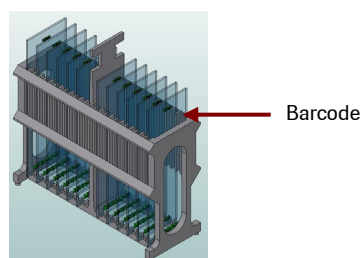

Figure 11: Insert Slides with the Barcode at the Top into the Slide Rack
9. If washing multiple slides, transfer the slide with the barcode at the top into a slide rack (Figure 11) in the wash tank that contains Wash I. If washing one slide, transfer the slide into a slide container that contains Wash I. Agitate vigorously for 10 - 15 seconds.